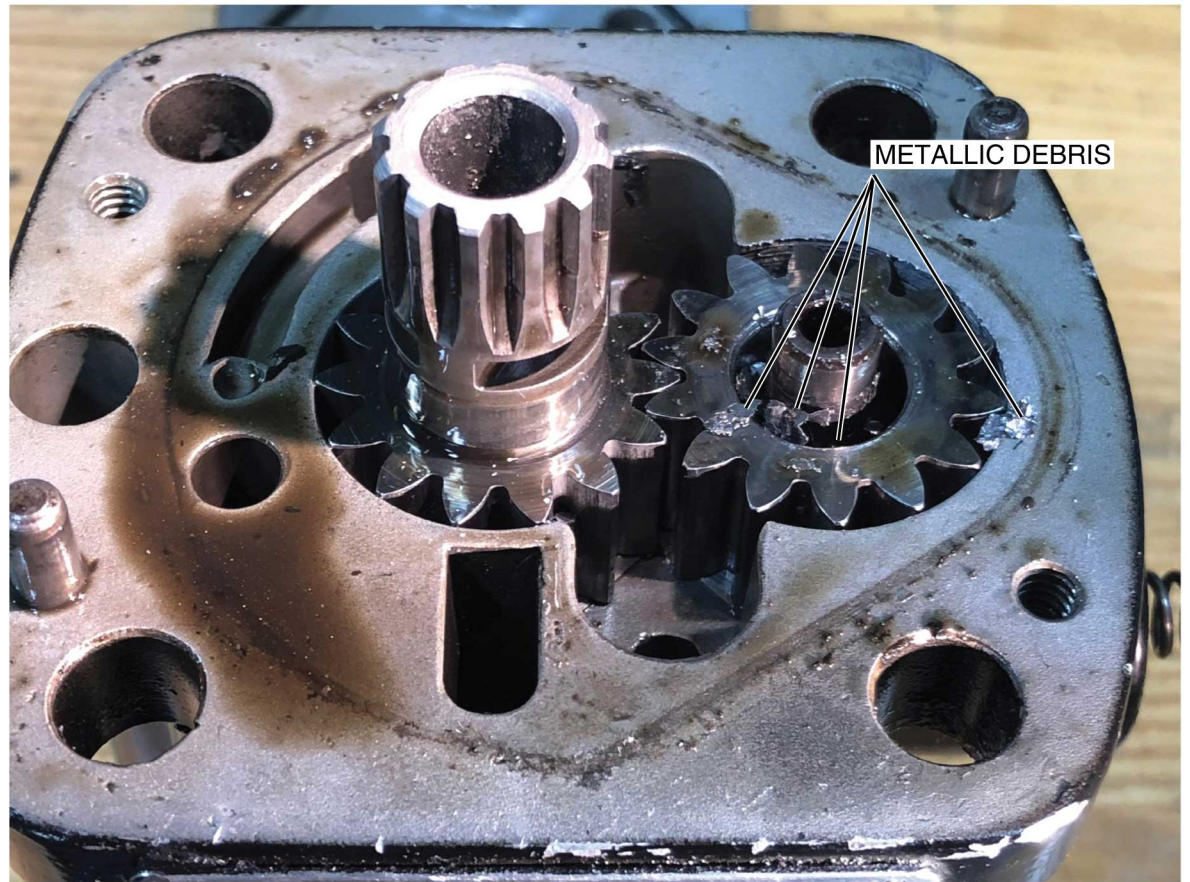

Figure 1. Metallic Debris Example (Sheet 1)
- (1) Remove the affected governor from the engine in accordance with the aircraft manufacturer or applicable STC holder's instructions.
- (2) Remove the C-20943 cover-pump housing from the governor assembly. Examine the inside of the housing and the base of the exposed governor (Refer to Figure 1). Note and photo document any signs of metallic debris.